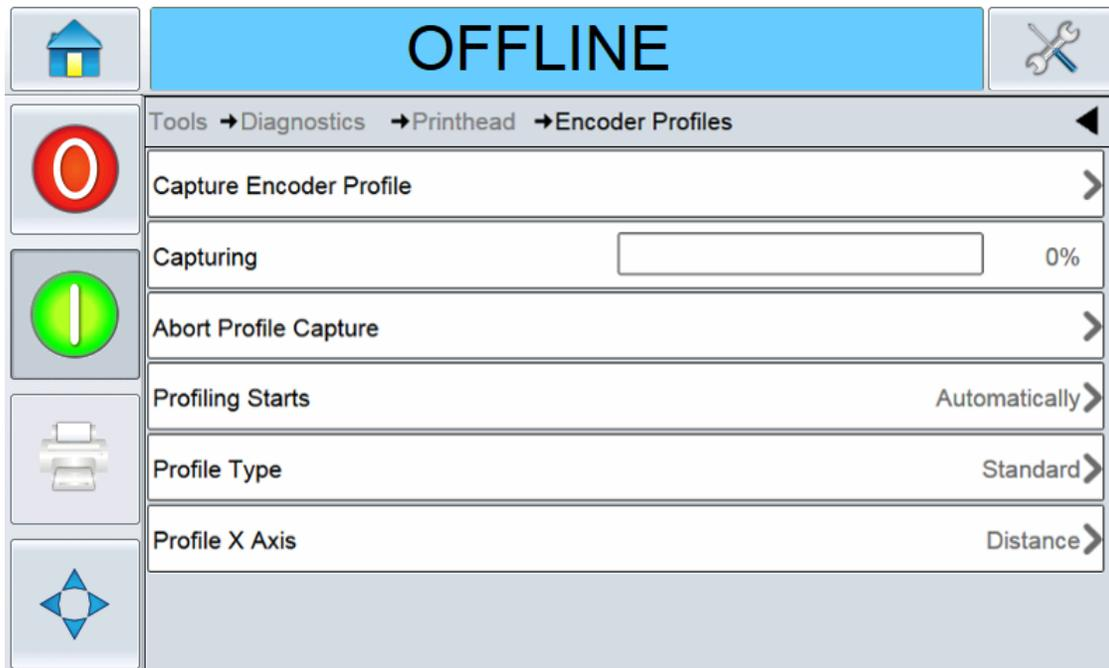

Figure 5-17: Capturing Encoder Profiles Screen
- Touch  and Capturing Encoder Profile screen appears (Figure 5-17).